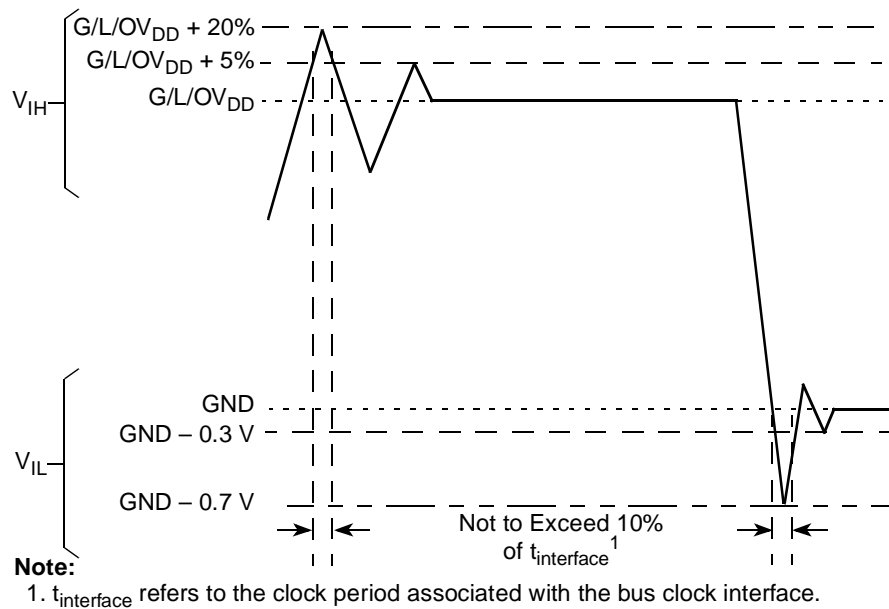

Figure 2. Overshoot/Undershoot Voltage for $GV_{DD}/OV_{DD}/LV_{DD}$
- ⁵ (M,L,O)V_{IN} and MV_{REF} may overshoot/undershoot to a voltage and for a maximum duration as shown in Figure 2.
Figure 2 shows the overshoot and undershoot voltages at the interfaces of the MPC8349EA.